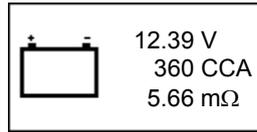

Fig.30
*This selection can also be used to test 12V - Deep Cycle Batteries. An example of the results display is shown below: (Fig.30)*